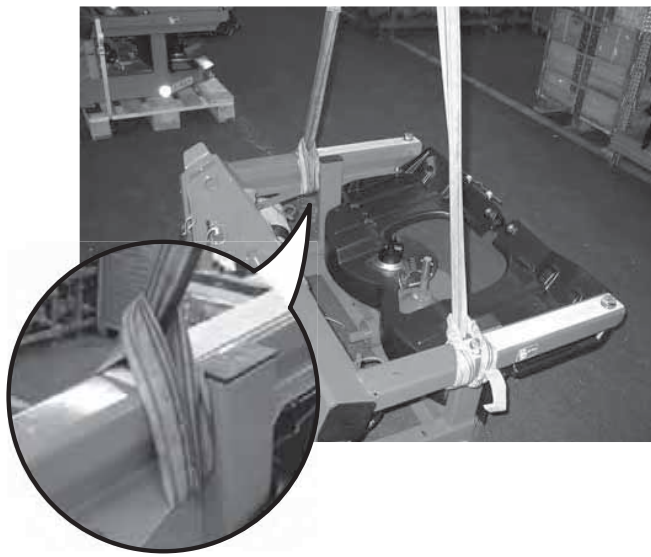

Figure 6.1: Lifting the frame
1. Take the frame off the stack with suitable lifting tackle (e.g. fork-lift truck/front-loader) and suitable straps (see figure 6.1) and place it on level solid ground.